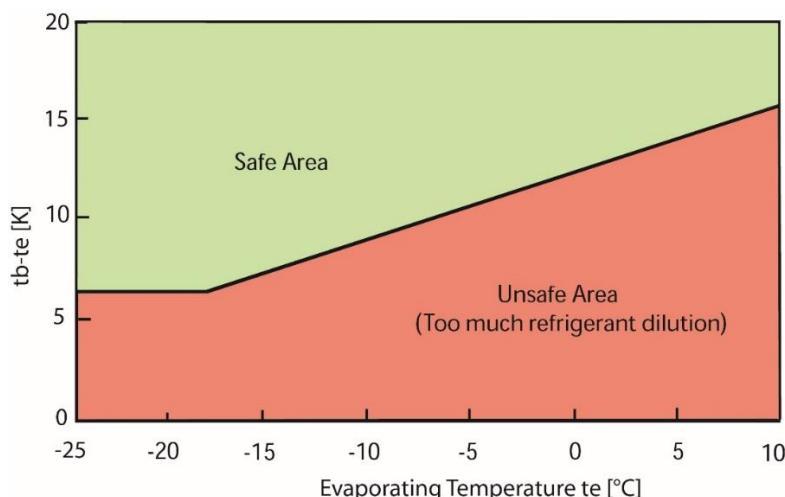

Figure 11: Oil dilution chart (t_b = bottom shell temperature; t_e = evaporating temperature)
- **liquid floodback and oil dilution test:** all possible transient operation conditions in the system should be checked, eg, compressor frequent start/stop, compressor start after long off time with migration, defrost, switching between the operation modes in reversible systems, load changes, fans or pumps cycling at low load and more. To evaluate the risk of liquid floodback or oil dilution, please refer to the chart in **Figure 11** below. The bottom shell temperature of the compressor and the evaporating temperature have to be monitored.
The bottom shell temperature together with the evaporating temperature gives an indication whether liquid refrigerant is returning or diluted in the compressor oil sump. The compressor sump temperature must remain in the (green) safe area, as shown in the oil dilution chart in **Figure 11**. In case of operation in the (red) unsafe area, adjustments are required in order to modify the system design, refrigerant charge or superheat setting of the expansion device(s). The bottom shell temperature should be measured accurately. The thermo-probe must be properly insulated and positioned on the lower part of the compressor housing, preferably in the oil collection area, opposite the end with the discharge connection.